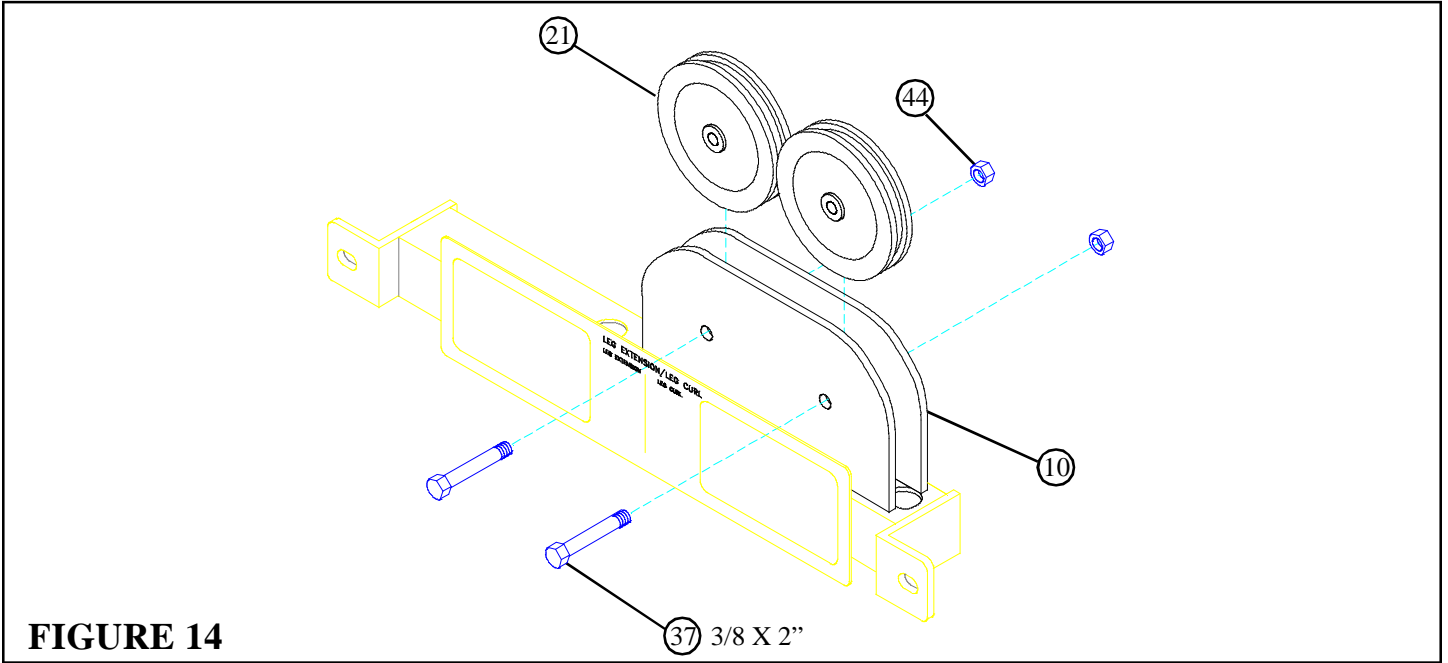

FIGURE 14
- **SECURELY** assemble two 4-1/2" PULLEYS (21) to the TOWER BRACE (10) using two 3/8 X 2" BOLTS (37), and two 3/8" LOCK NUTS (44). See FIGURE 14.